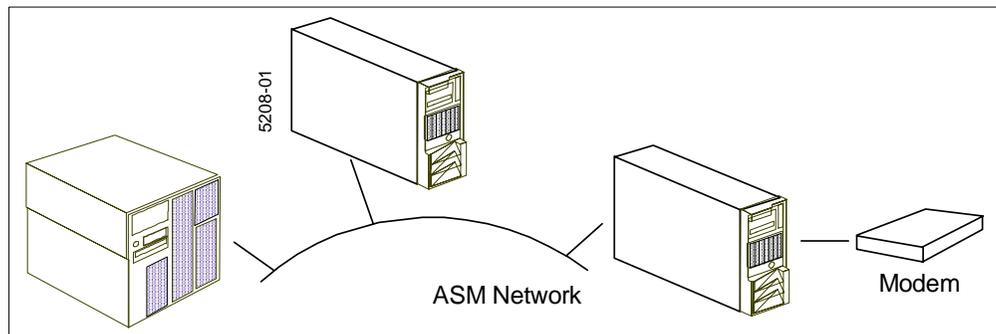

Figure 203. Example Configuration
2. Connect the servers to the ASM interconnect bus using standard UTP cable with RJ-45 connectors at both ends so that the three servers are connected to the ASM interconnect bus as shown in Figure 203: